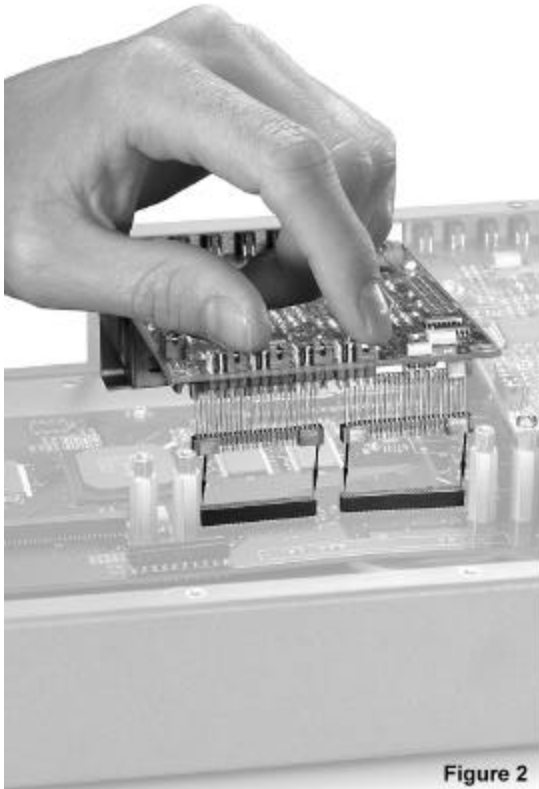

Figure 2
STEP 2: Precisely align the connector pins on the bottom of the quad port module with the connector pin holes in the socket slot mounted on the board (**Figure 2**). Do not force the pins into the connector holes if they are not correctly aligned. The pins will become damaged or bent if they have not been aligned properly and are forced into an incorrect position.